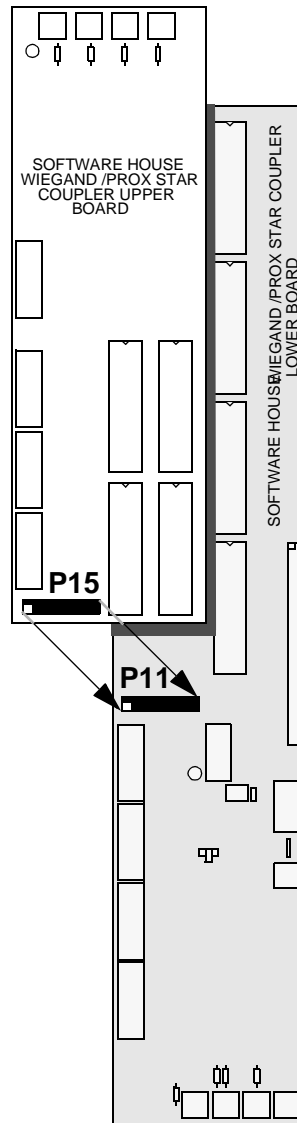

Figure 5.3 Pin Connections for Lower WPSC Board
4. Plug P15 of the optional upper module into P11 of the lower WPSC module. (See Figure 5.3).